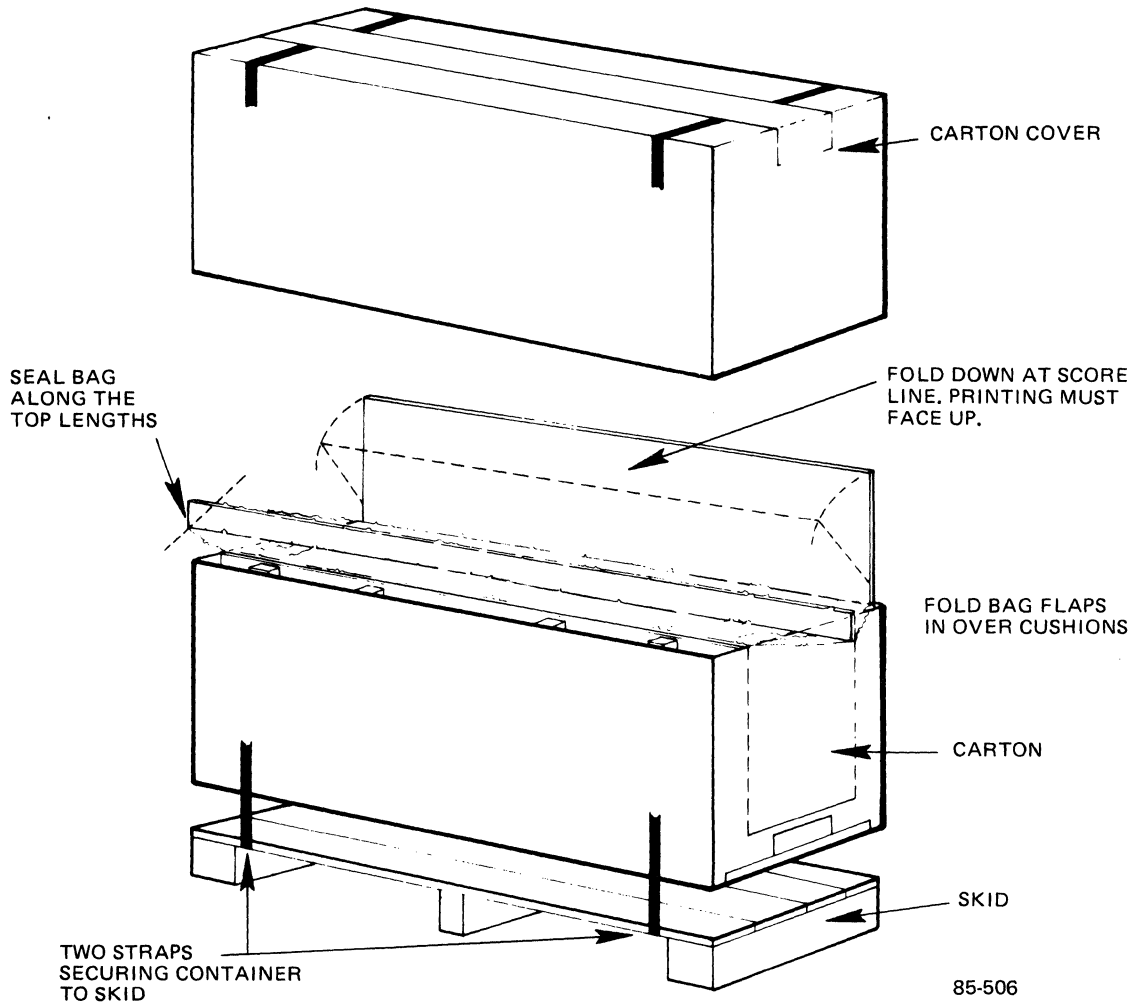

Figure 3-6. Closing the Shipping Carton
16. If present, slide the printed cardboard insert down between the bag and the carton (see Figure 3-6). Fold it at the crease so that the printed side is lying face up on the bag.
17. Place the top cover on the shipping carton (see Figure 3-6).